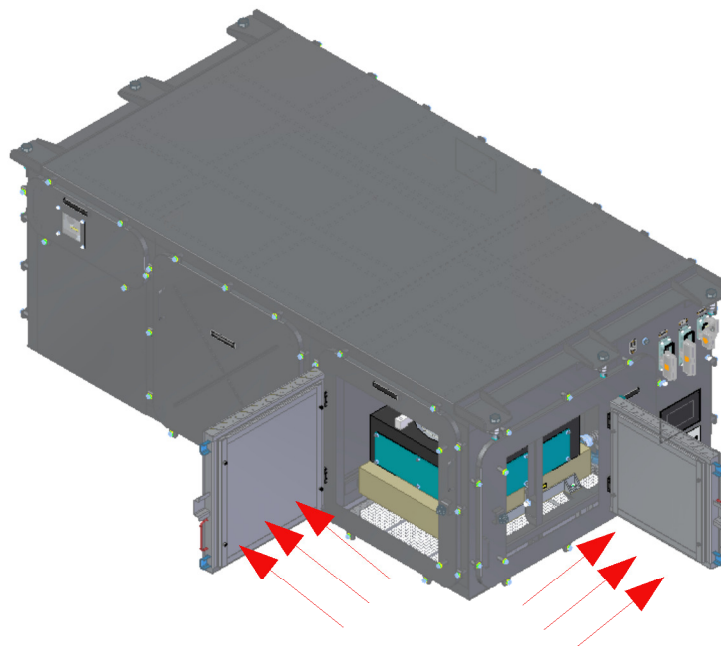

Figure : 10
- For cleaning filters open the filter as shown in figure : 10 and blow the compressed air.